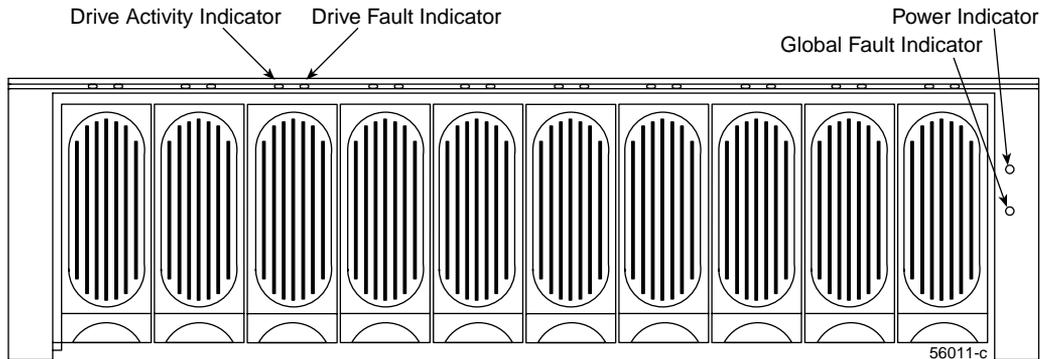

Figure 6-4 Indicator Lights (Front)
Important: Except as described in the notes following Figure 6-4 and Figure 6-5, an amber light indicates a drive enclosure component failure. If you see an amber indicator, run the storage management software (TPSSM7) to diagnose and repair the problem.
1. Check the indicators on the front of the drive enclosure (Figure 6-4 and Table 6-1).
Figure 6-4 and Table 6-1 describe the front indicators.